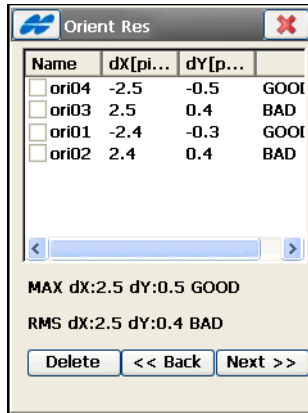

Figure 11-42. Orientation Results
- **Next** – when four or more orientation points have been established, click to display the orientation results (Figure 11-42 on page 11-39).
The *Orientation Results* screen displays the results of the image orientation (Figure 11-42). The results for each orientation point is displayed as  $dX$  and  $dY$  in image pixels.